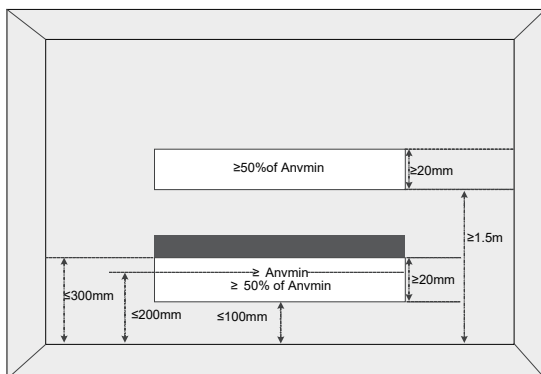

Figure 1-2
- The room area (A) shall be defined as the room area enclosed by the projection to the base of the walls, partitions and doors of the space in which the appliance is installed.
- The area of the adjacent rooms, on the same floor, connected by permanent opening in the walls and/or doors between occupied spaces, including gaps between the wall and the floor, can be considered a single room when determining compliance to Amin, provided all of the following conditions are met as Figure 1-2.
- ① The opening shall not be less than 0.0123 m^2 (Anvmin)
- ② The area of any openings above 300 mm from the floor shall not be considered in determining compliance with Anvmin.
- ③ At least 50 % of the opening area of Anvmin shall be below 200 mm from the floor.
- ④ The bottom of the opening is not more than 100 mm from the floor.
- ⑤ The opening is a permanent opening that cannot be closed.
- ⑥ The height of the opening is not less than 20 mm.
- ① The opening shall not be less than 0.0062 m^2 (50% of Anvmin).
- ② The opening is a permanent opening that cannot be closed.